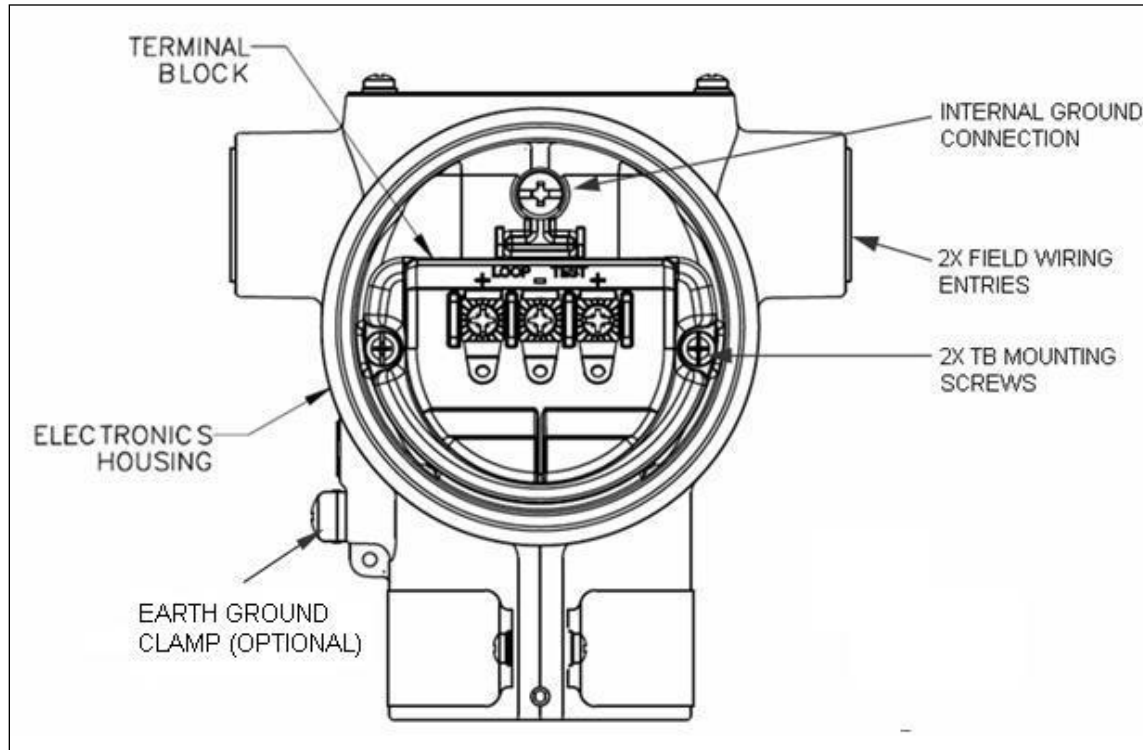

Figure 55 – ST 700 Basic Transmitter - 3-Screw Terminal Board and Grounding Screw
Loop wiring is connected to the transmitter by simply attaching the positive (+) and negative (–) loop wires to the positive (+) and negative (–) terminals on the transmitter terminal block in the electronics housing shown in Figure 55.
As shown in Figure 55 each transmitter has an internal terminal to connect it to earth ground. Optionally, a ground terminal can be added to the outside of the electronics housing. While it is not necessary to ground the transmitter for proper operation, doing so tends to minimize the possible effects of noise on the output signal and affords protection against lightning and static discharge. An optional lightning terminal block can be installed in place of the non-lightning terminal block for transmitters that will be installed in an area that is highly susceptible to lightning strikes.
7. See Figure 55 above, for parts locations. Loosen the end cap lock using a 1.5mm Allen wrench.